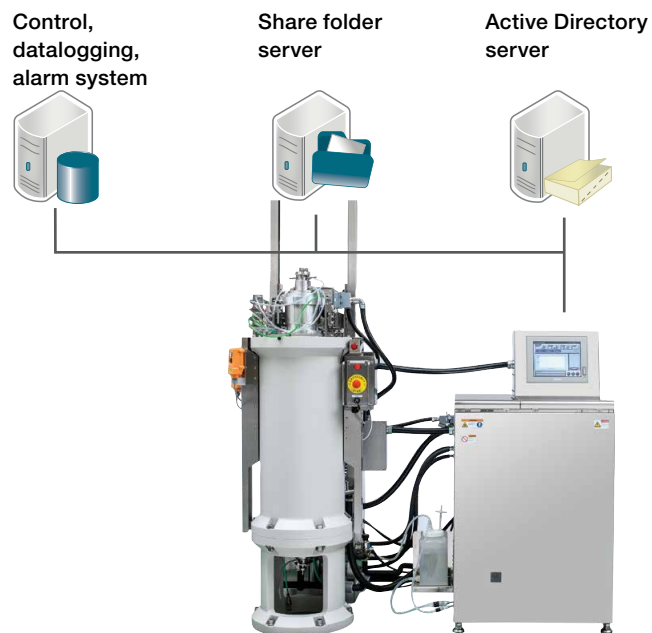

Figure 9. Connectivity of the Sorvall CC40NX ultracentrifuge.
- Access to authorized users through login management by network Active Directory server in Figures 9 and 10